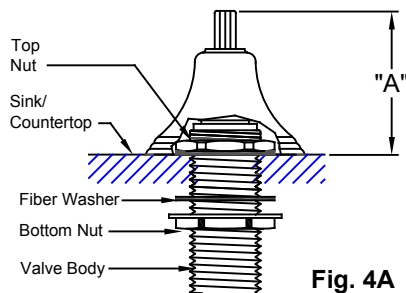

Fig. 4A
- Insert valve through hole from below and install top nut (if applicable), and adjust to proper height, see Fig. 4A (also refer to "A" dimension).
The trim to those products do not require a top nut to be installed on the valve (See Fig. 4A)